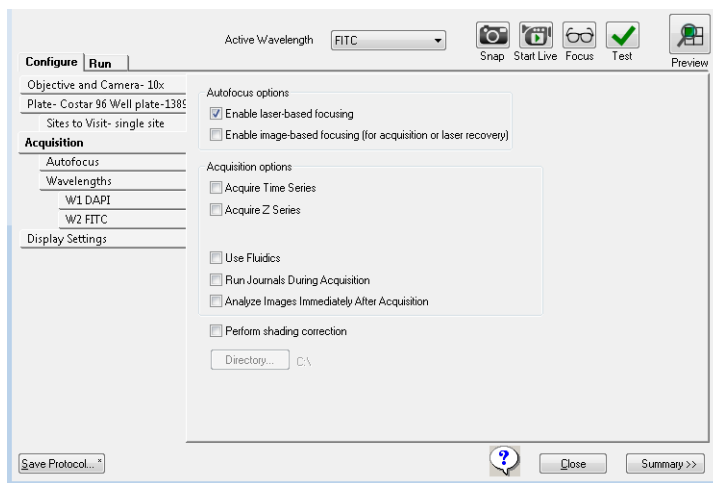

Figure 5-21: Plate Acquisition Setup dialog, Configure tab, Acquisition tab
1. Open the **Acquisition** tab. See Figure 5-21 on page 119.